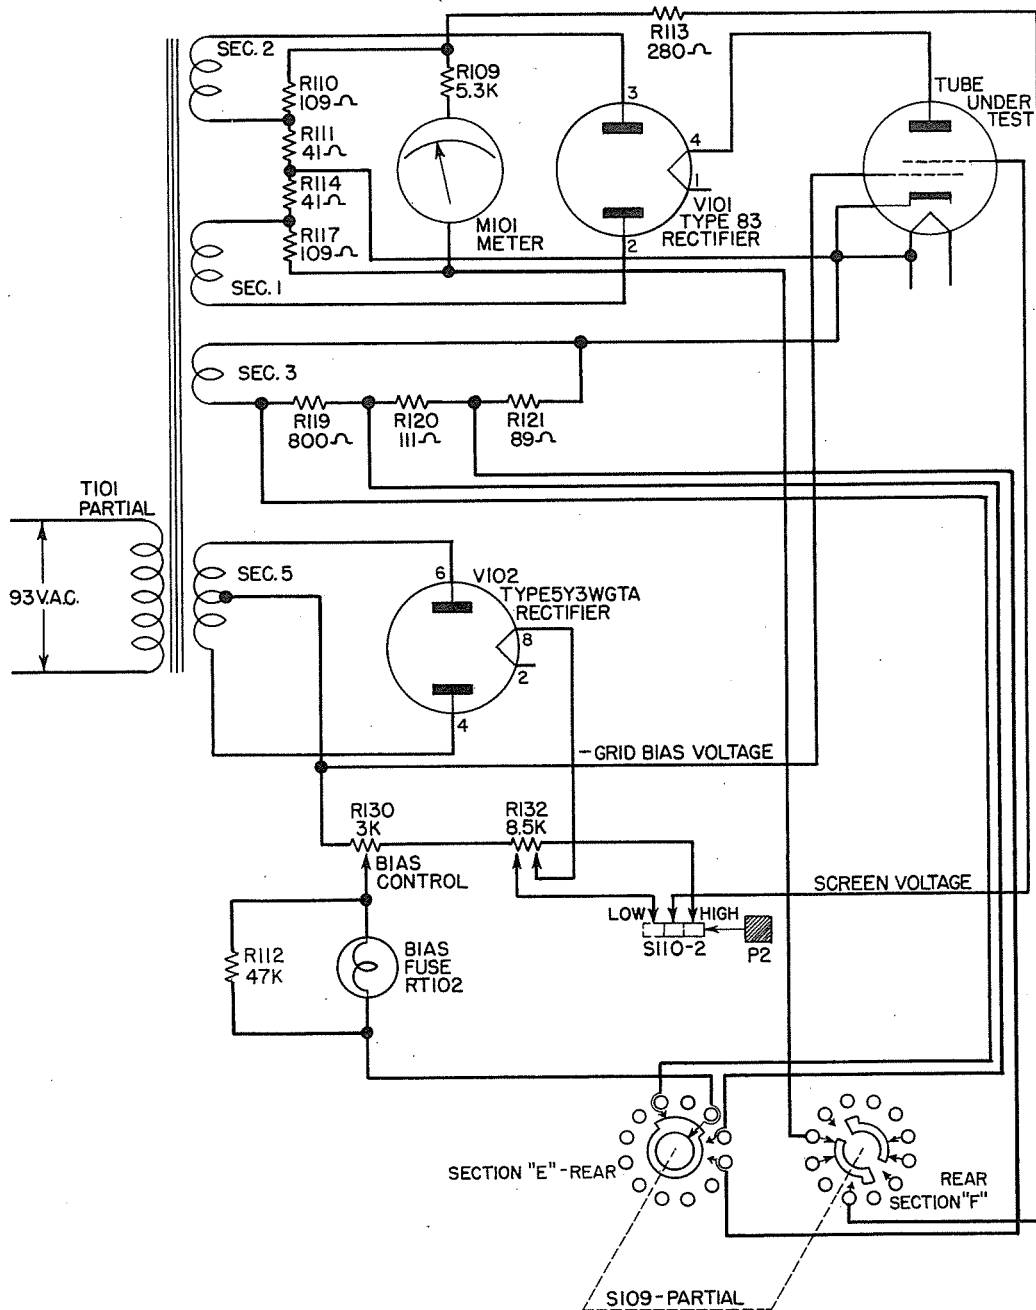

Figure 2-7. Simplified Mutual Conductance Test Circuit
8. MUTUAL CONDUCTANCE. (See figure 2-7)
f. The normal screen voltage of 130 volts is excessive for testing certain tubes such as type 1R5. In such cases it is necessary to press push button P2 before pressing the red push button P3. Pressing P2 operates switch S110-2 and reduces the screen voltage to approximately 56 volts as illustrated by Figure 2-7.